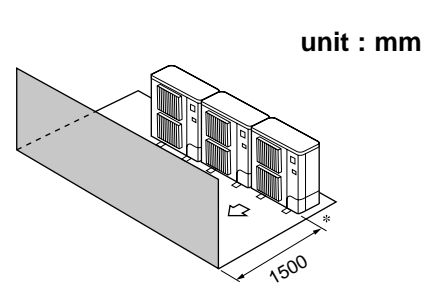

Fig. 2-12
- Obstacles at front only (Fig. 2-12)